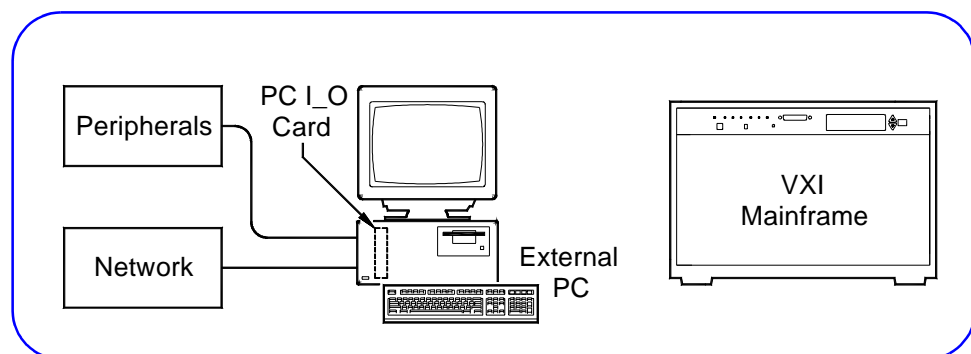

Figure 12. Installing/Configuring Mainframes
- 2 Install the ground connector (for 66 Hz and above operation ONLY), connect the power cord, and configure each mainframe as required as shown in the applicable Mainframe User/Service Manual. Figure 12 shows the hardware installed after this step.